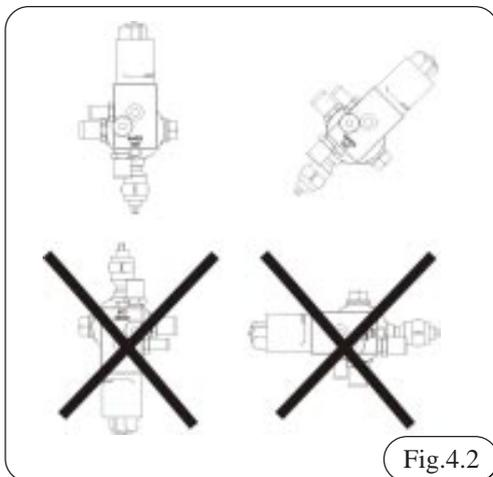

Fig.4.2
- Install the proportioner with the stepper motors positioned as in Fig. 4.2.